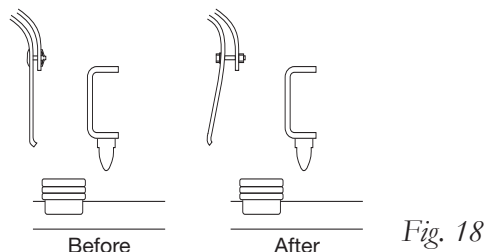

Fig. 18
1. If this installation was on a late-model 4WD Dodge truck, reinstall the inner fender well liner using the original fasteners and provided spacers to allow for air spring clearance (Fig. 18).